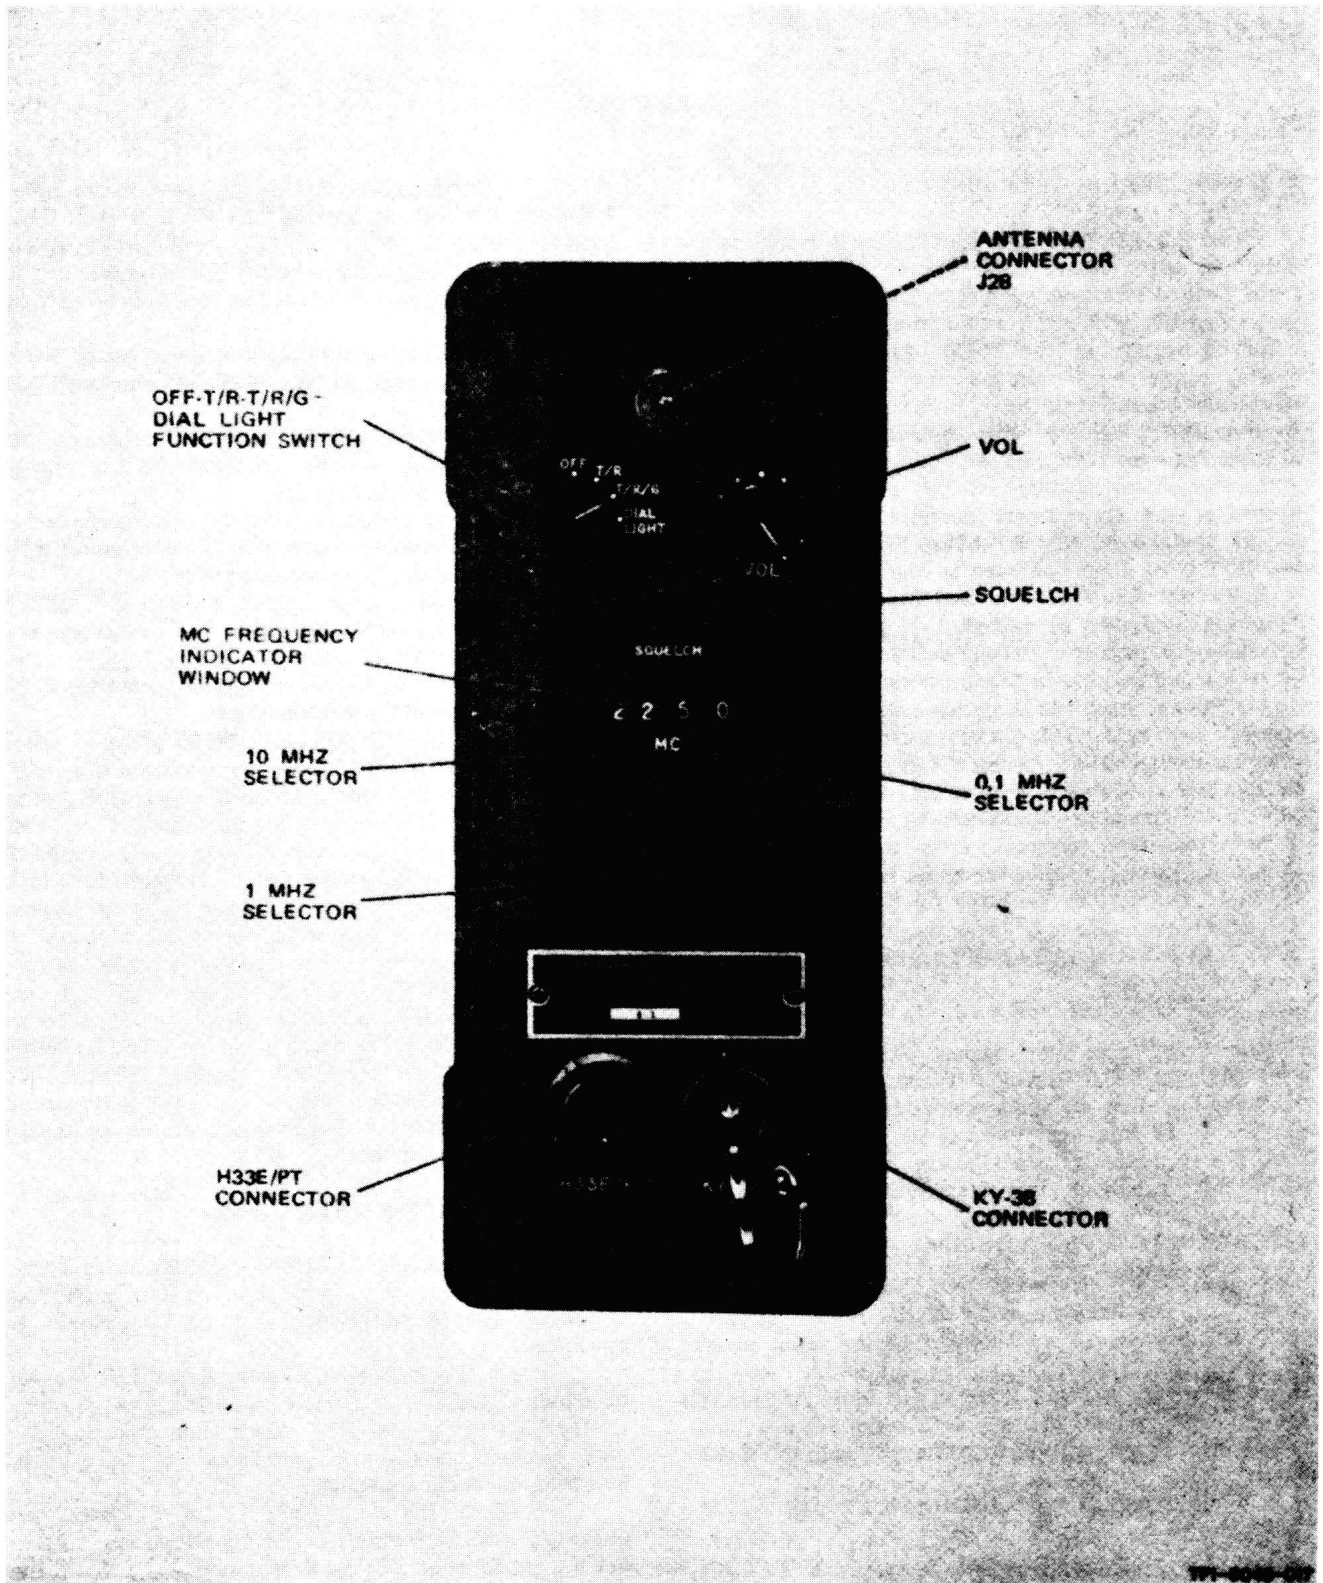

Figure 3-1. Radio Receiver-Transmitter RT-695A/PRC-41. Front Panel Components
a. DESCRIPTION OF CONTROLS. - All controls required for operation of the Radio Set AN/PRC-41A equipment are located on the front panel of Radio Receiver-Transmitter RT-695A/PRC-41. Refer to figure 3-1 for location and identification of the controls of this equipment. Table 3-1 provides a list and functional description of each of these controls.
b. SEQUENCE OF OPERATION. (Refer to figure 3-1.)